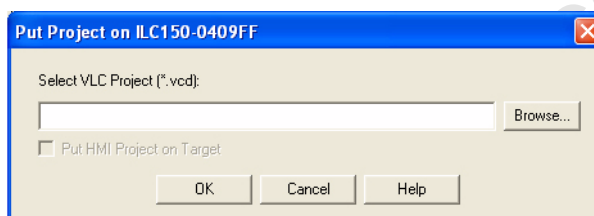

Figure 3-9 The Target Manager “Put Project on ...” dialog box.
2. Click the “Put on Target” button, and then select “Project” to display the “Put Project on ...” dialog box (see Figure 3-9).